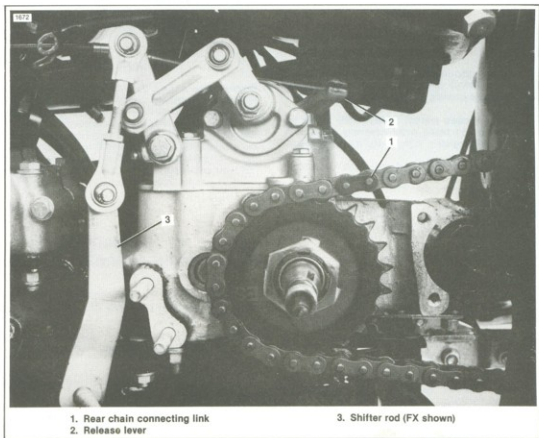

Figure 7-27. Primary Case Removed
7. See Figure 7-27. On chain drive models, locate the rear chain connecting link (1). Remove the spring clip and master link. Remove the chain from the sprocket. On belt drive models, loosen the rear wheel adjusting nuts (see BELTS, Section 6) and remove the belt from the sprocket.
8. See Figure 7-27. Remove the clutch cable from the release lever (2).
9. Disconnect the shifter rod (3) from the shifter linkage.
6. See Figure 7-27. On chain drive models, install the rear chain on the transmission sprocket and secure it with the connecting link and spring clip. See CHAINS, Section 6. Make sure that the spring clip open end trails the direction of chain travel.
7. See Figure 7-27. Place the clutch cable into the release rod end.